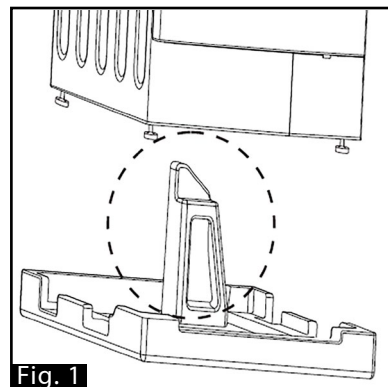

Fig. 1
2. Make sure the small triangle foam (Fig. 1) is removed with the bottom foam piece.